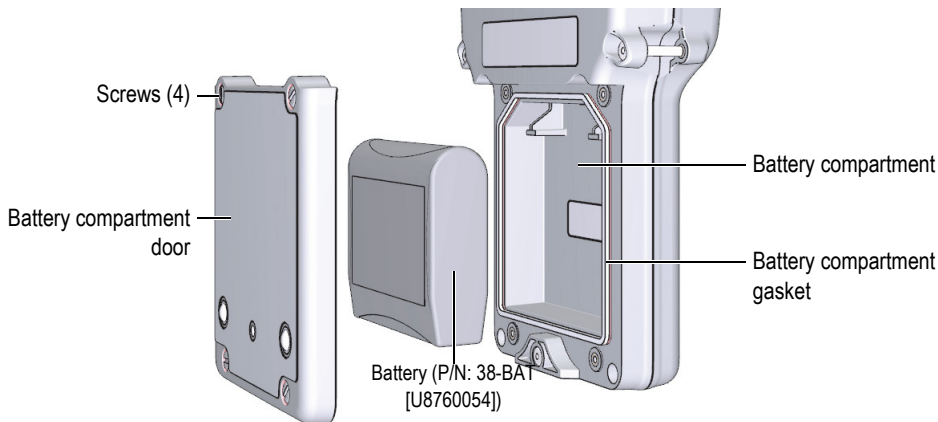

Figure 2-4 Opening the battery compartment
The battery is located in a compartment that is accessible from the back of the 39DL PLUS (see Figure 2-4 on page 50).
6. At the back of the instrument, unscrew the four screws of the battery compartment cover (see Figure 2-4 on page 50).